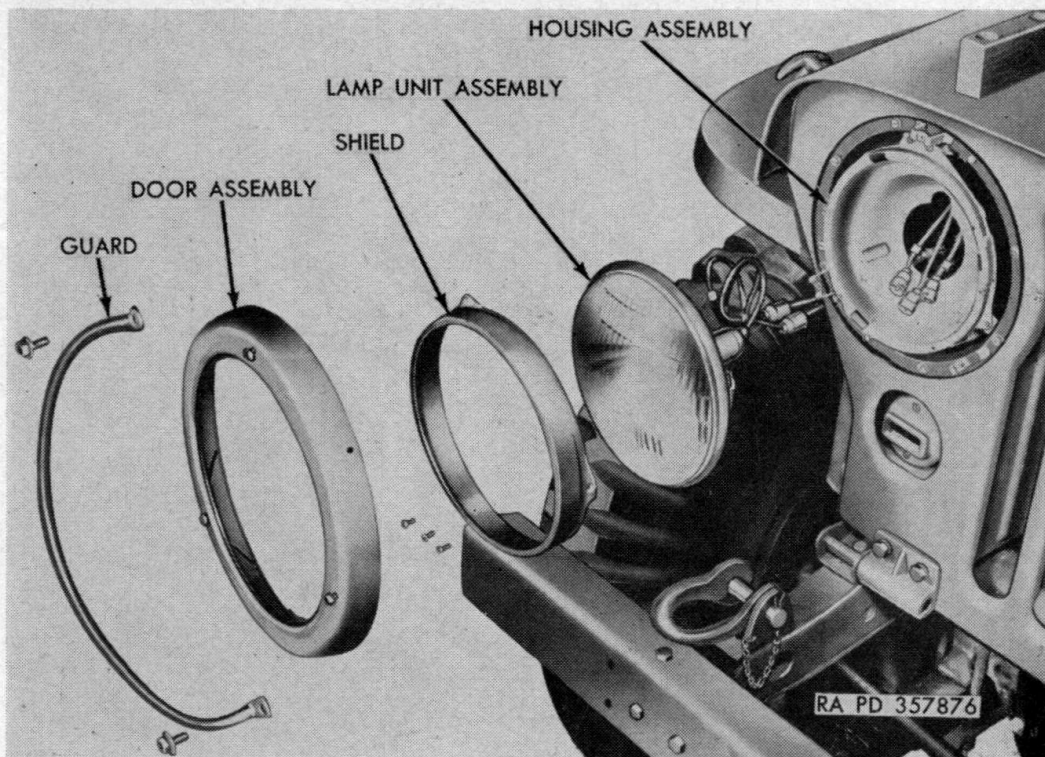

Figure 58. Head lamp replacement.
- (2) *Headlights*. Service headlights, mounted in radiator guard (fig. 58) are waterproofed, double filament, sealed beam type. Upper and lower headlight beams are selected by a foot-operated dimmer switch.